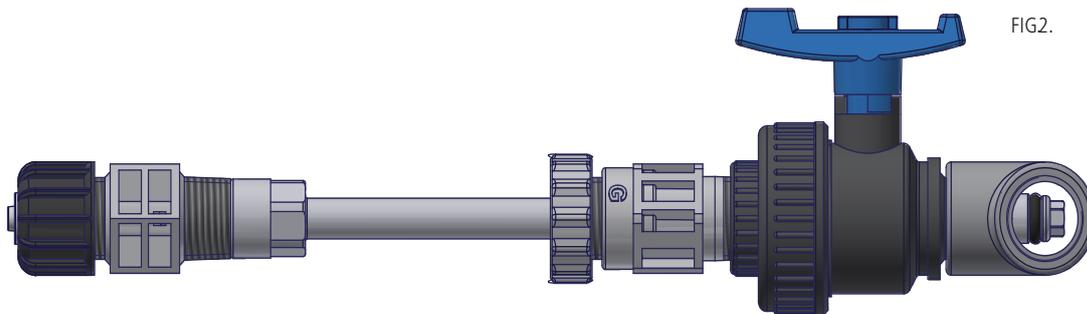

FIG2.
- - Firmly tighten the ring on the nut as shown in Figure 2 to prevent the lance from being expelled by the water pressure.